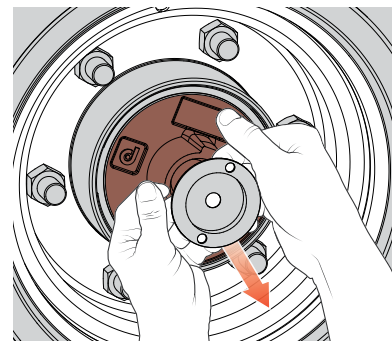

**Figure 45. Removing Cap**
2. Loosen the two allen screws on the cap (4mm) and remove cap (Figure 45).